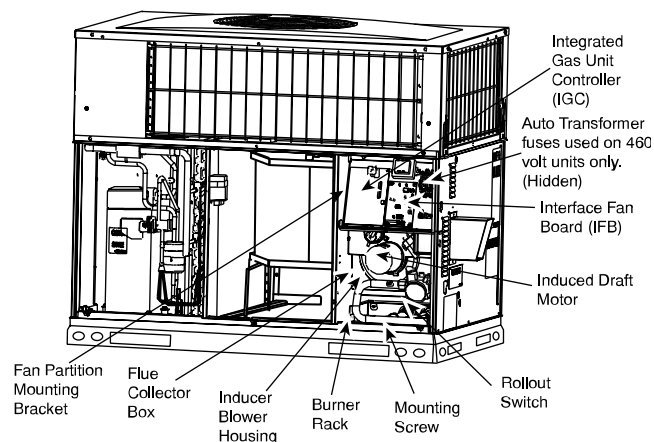
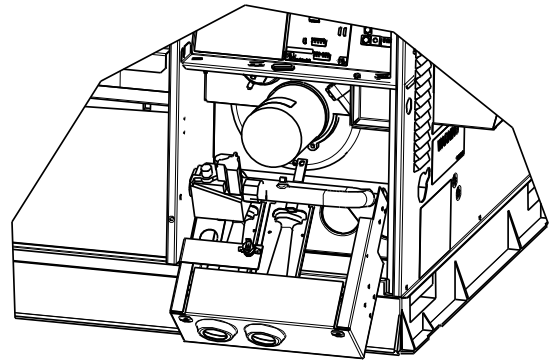

Fig. 41 – Blower Housing and Flue Collector Box
Fig. 44 – Burner Rack Removed (Standard and Standard Low NO_x Models Only)
3. Slide the assembly out of the unit. (See Fig. 44). Clean the blower wheel. If additional cleaning is required, continue with Steps 4 and 5.
2. Remove the 11 screws holding the flue collector box cover (See Fig. 41) to the heat exchanger assembly. Inspect the heat exchangers.
Unit is equipped with a direct spark ignition 100 percent lockout system. Ignition module (IGC) is located in the control box (See Fig. 41). Module contains a self-diagnostic LED. During servicing, refer to label diagram or Table 14 in these instructions for LED interpretation.
5. Remove fan partition mounting bracket (2 screws located on the left side of control compartment on the fan partition panel). Slide bracket forward, bottom first, to remove. (See Fig. 41.)
7. Remove the mounting screw that attaches the burner rack to the unit base (See Fig. 41).
8. Partially slide the burner rack out of the unit (see Fig. 41 and Fig. 44). Remove ignitor and sensor wires at the burner assembly. Remove wires to rollout switch.
9. Slide the burner rack out of the unit (See Fig. 41 and Fig. 44).